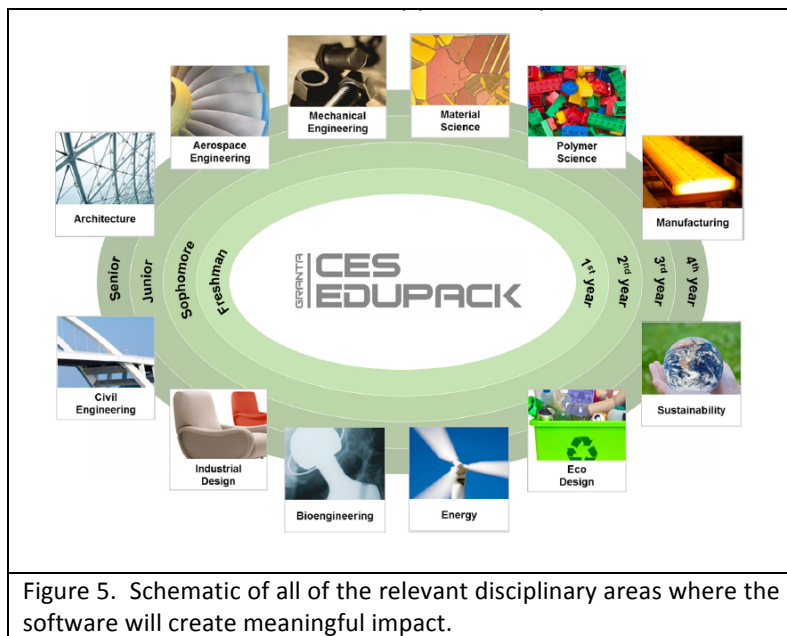

Figure 5. Schematic of all of the relevant disciplinary areas where the software will create meaningful impact.
**Number of People Benefiting:** Primary target users are students and faculty in the Departments and Schools of Materials Science and Engineering, Mechanical Engineering, Biomedical Engineering, Civil Engineering, Environmental Engineering, Chemical Engineering, Industrial Engineering, Architecture, Building Construction, and Interior Design. This would potentially impact over 100 faculty and at least 1,000 students. A summary of all of the fields that could be potentially impacted by the implementation of this software on campus is provided in Figure 5.